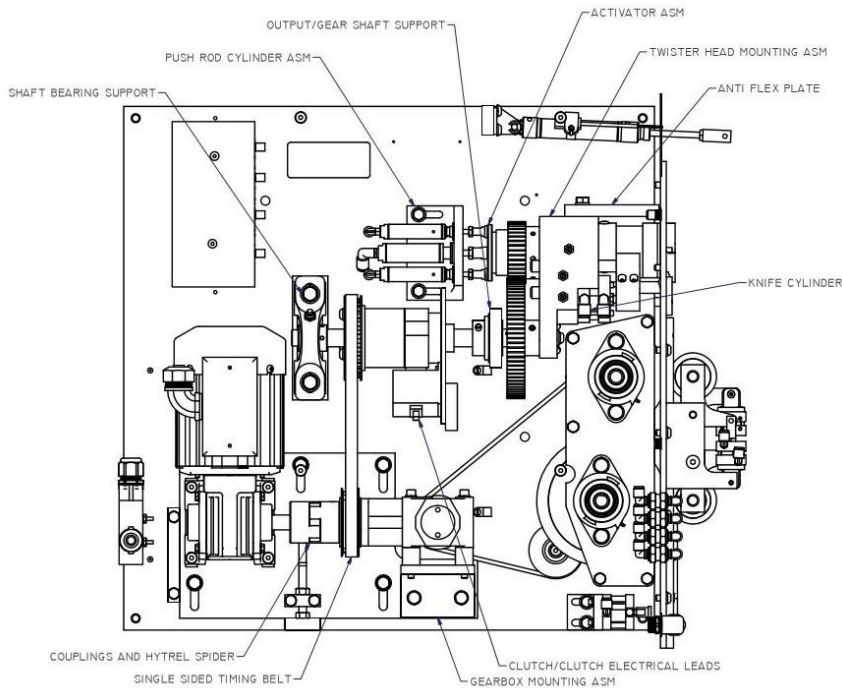
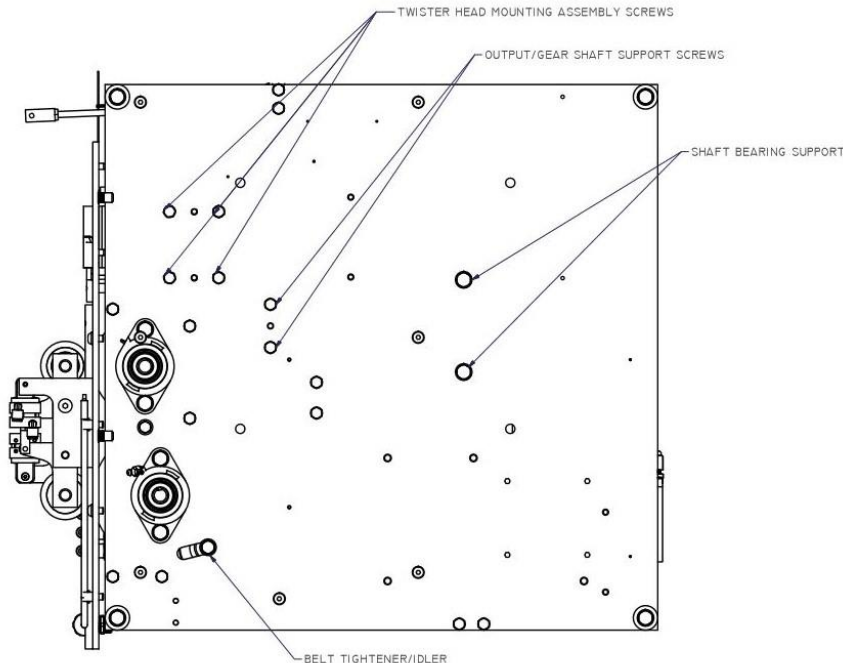
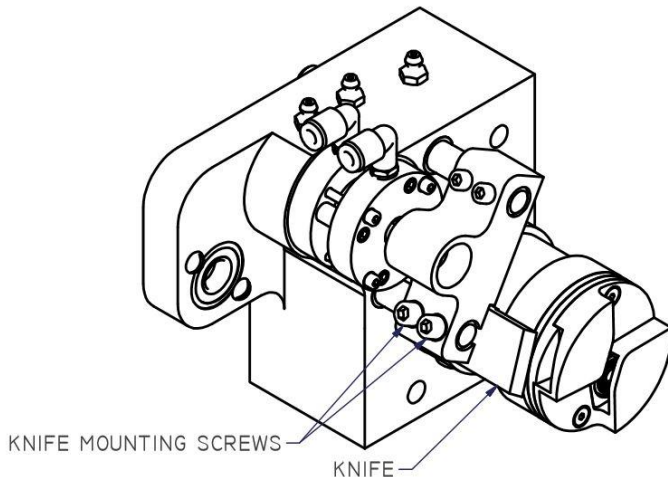
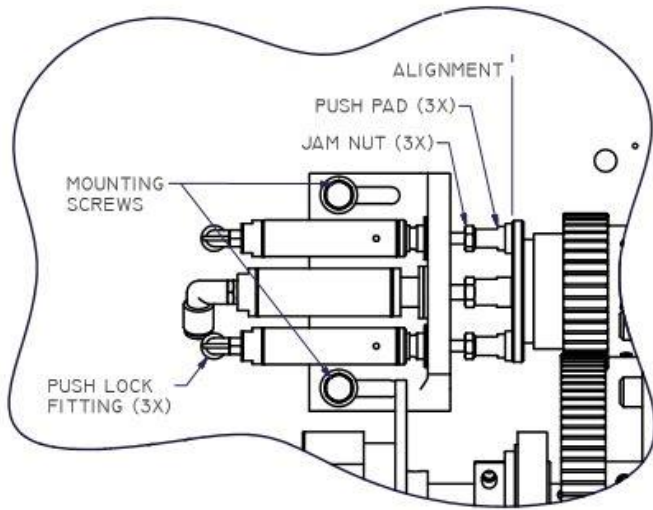

Figure 6.3.1 Diagram inside Cabinet (Left Side of Machine)
Figure 6.3.2 Diagram inside Cabinet (Right Side of Machine)
Figure 6.3.3 Knife Mount Diagram
Figure 6.3.4 Push Pad Cylinder Assembly and Alignment
(Reference Figure 6.3.1, Figure 6.3.2, Figure 6.3.3, & Figure 6.3.4)
15. Set assembly on work area and remove two cap head screws from knife mount to remove knife from its mount. Reference Figure 6.3.3.
- 20.3 Tighten attachment screws. Make certain that the three push pads on the cylinders are equally aligned vertically. The push pads should be very close to the activator surface without touching. Reference Figure 6.3.4.